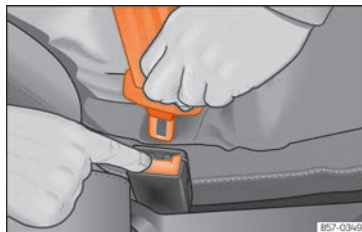

Fig. 24 Release the seat belt's latch plate.
- Press the red button on the buckle » » Fig. 24. The latch plate is released from the buckle.